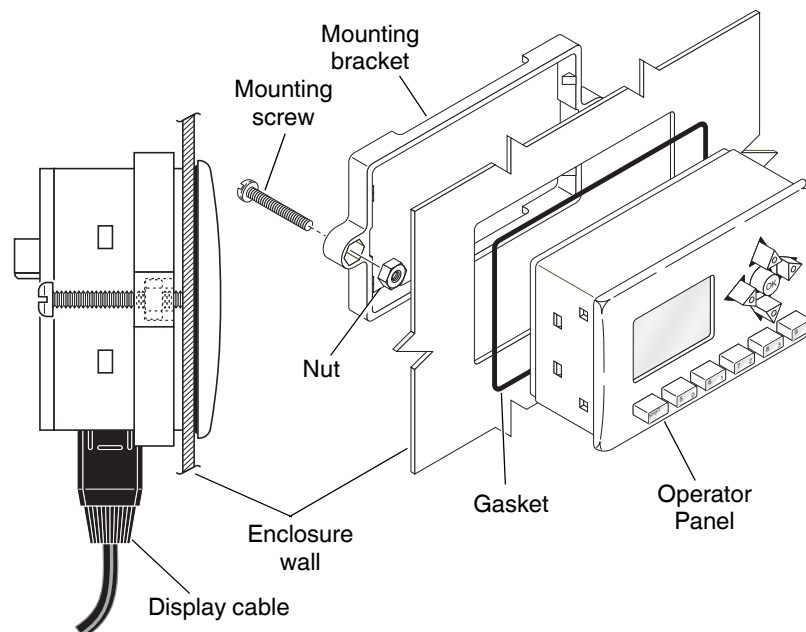

Figure 2-13 Remote Operator Panel installation
5. Slide the mounting bracket over the Operator Panel from the back with the bolt heads extending rearward and the thread end against the enclosure wall (see Figure 2-13). Continue to slide the bracket forward until the latches on the mounting bracket snap into the receiver holes in the Operator Panel housing.